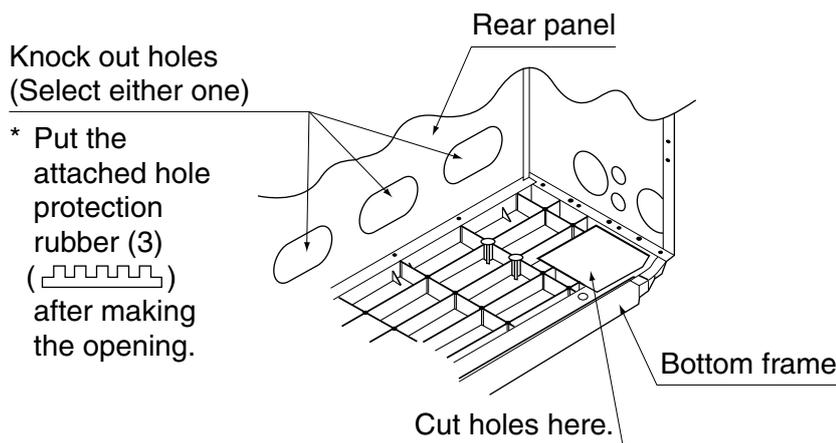

Fig. 14
1. Open the knock out holes on the rear panel. (Refer to Fig. 14)
1. Cut holes in the indicated area of the bottom frame. (Refer to Fig. 14)